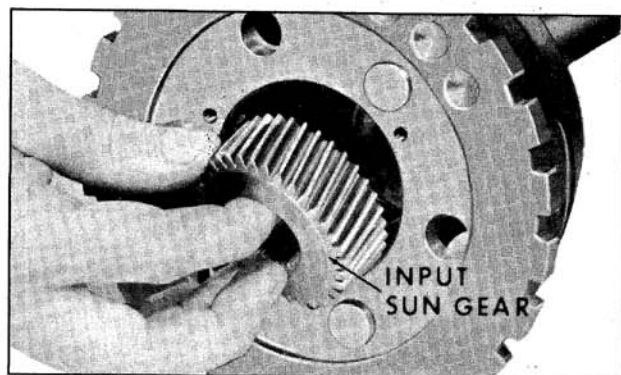

Fig. 6-471 Installing Input Sun Gear
7. Install input sun gear into planet carrier. (Fig. 6-471)